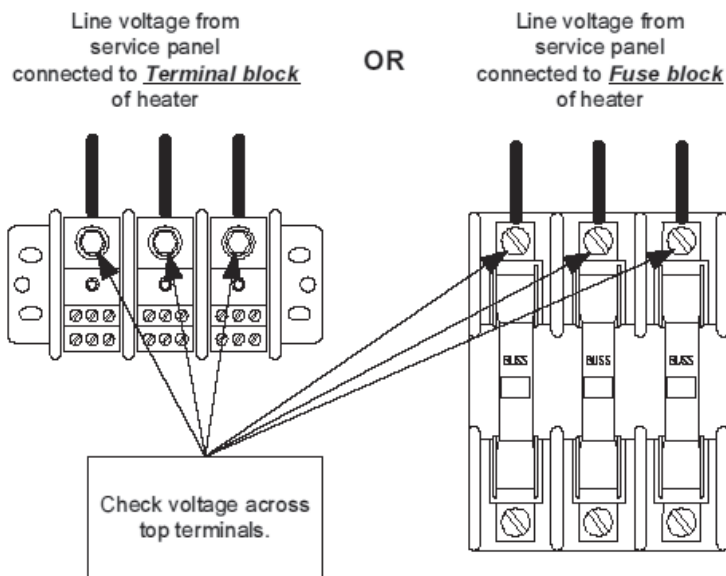

Figure 4
6. Use caution and check voltage across top terminals where service voltage connects to water heater (see Figure 4).